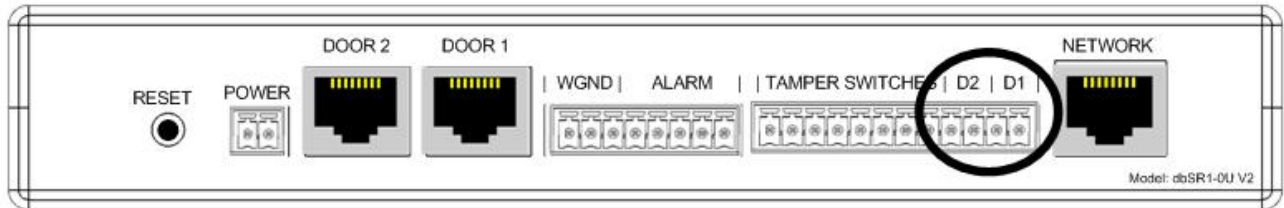

Figure 17a
- Pins 9 thru 12 are used for the Door Contacts, as show in Figures 17a and 17b.